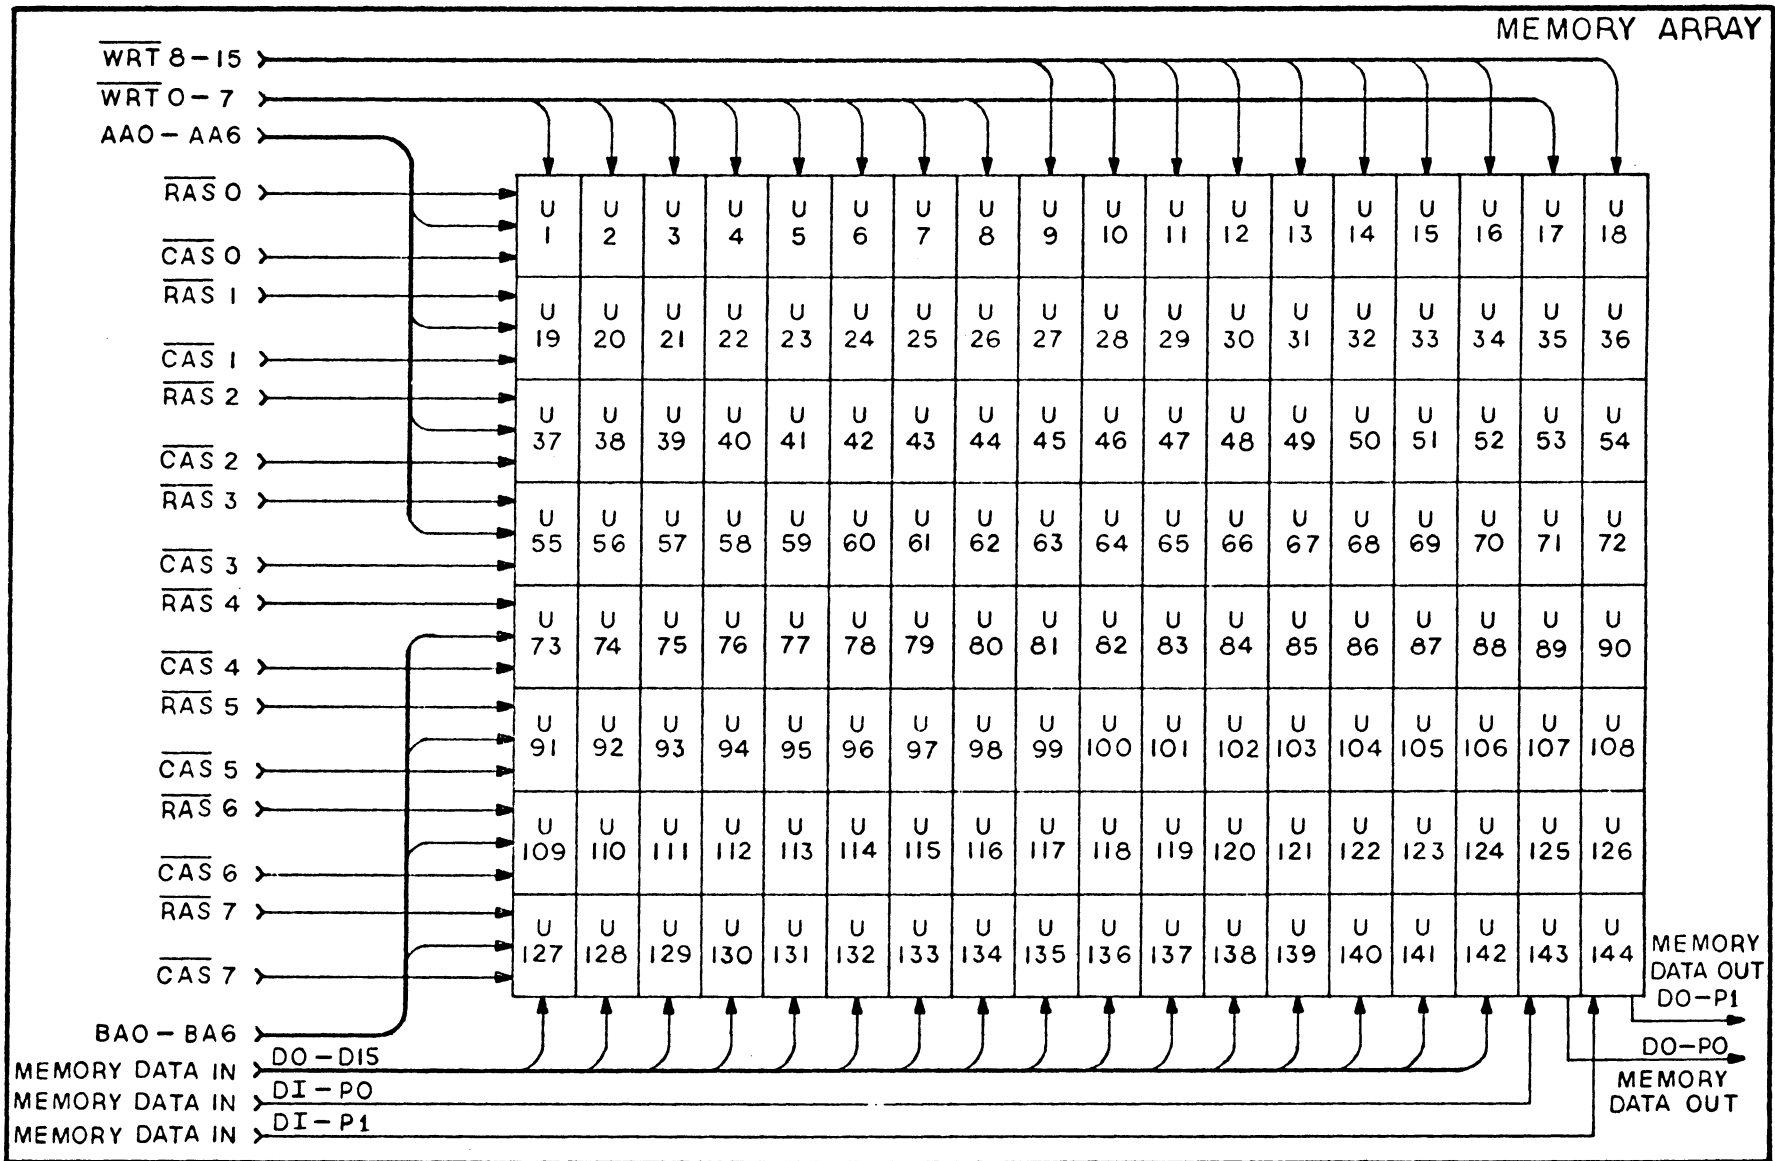

FIGURE 3-4
3.5 MEMORY ARRAY (FIGURE 3-4)
The Memory Array is comprised of 144 16K Dynamic Rams in a 8x18 matrix. Each Byte contains 128Kx9 bits of memory; eight data bits and a parity bit. Addresses A0 thru A6 are common to all Rams. RAS and CAS signals (1 of 3) are common to each row. Basic Array organization is shown in Figure 3-4.